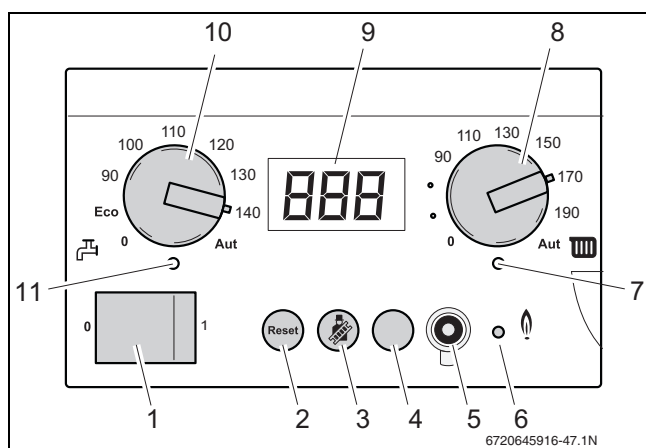

Fig. 70 BC10 basic controller
- Press and hold the  button (→ fig. 70, [3]) (approx. 2 seconds), until the dot in the right-hand bottom corner of the display (→ fig. 70, [9]) appears (→ table 12, page 29).
- After the "LED Burner operation" (→ fig. 70, [6]) has lit wait for 1 minute until the boiler is burning at full load.
- ▶ Switch OFF the heating system by pressing the main switch of the BC10 basic controller (→ fig. 70, [1]).
- ▶ Remove the flue gas analyzer and fit the cover back onto the flue gas measuring point (→ fig. 70, [1]).
- ▶ Switch ON the heating system by pressing the main switch of the BC10 basic controller (→ fig. 70, [1]).
- ▶ Switch OFF the appliance by pressing the main switch of the BC10 basic controller (→ fig. 70, [1]).
- ▶ Switch ON the appliance by pressing the main switch of the BC10 basic controller (→ fig. 70, [1]).
- ▶ After the LED Burner "operation" (→ fig. 70, [6]) has lit wait for 1 minute until the boiler is burning at part load.
- ▶ Press and hold the "Chimney sweep" button (→ fig. 70, [3]) (approx. 2 seconds), until the dot in the right-hand bottom corner of the display (→ fig. 70, [9]) appears (→ table 12, page 29).
- ▶ Press the "Chimney Sweep" button (→ fig. 70, [3]) and hold it (for approx. 2 seconds), until the display shows the decimal point.